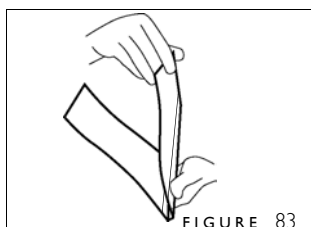

FIGURE 83
1. Fold your cover at the two scores that represent your book's spine edges (figure 83) — **these are the scores that are the same distance apart as the thickness of your book block**. If your cover has a total of four scores in the spine region, these are the two middle scores.